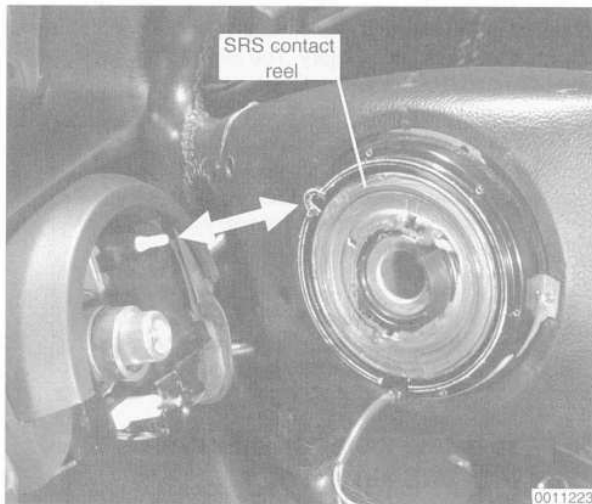

Fig. 1. Install steering wheel so that locking pin in column aligns with cutout in contact reel (arrow).
The SRS contact reel is mounted to the rear of the steering wheel hub. The contact reel is a wound coil of wire that ensures continuous electrical contact for the air bag unit. Once the steering wheel mounting nut or bolt is removed the contact reel is locked in the center position and its position must not be altered. See Fig. 1.
- Install the steering wheel while aligning the matching marks. Make sure the locking pin engages the cutout in the contact reel. See Fig. 1.